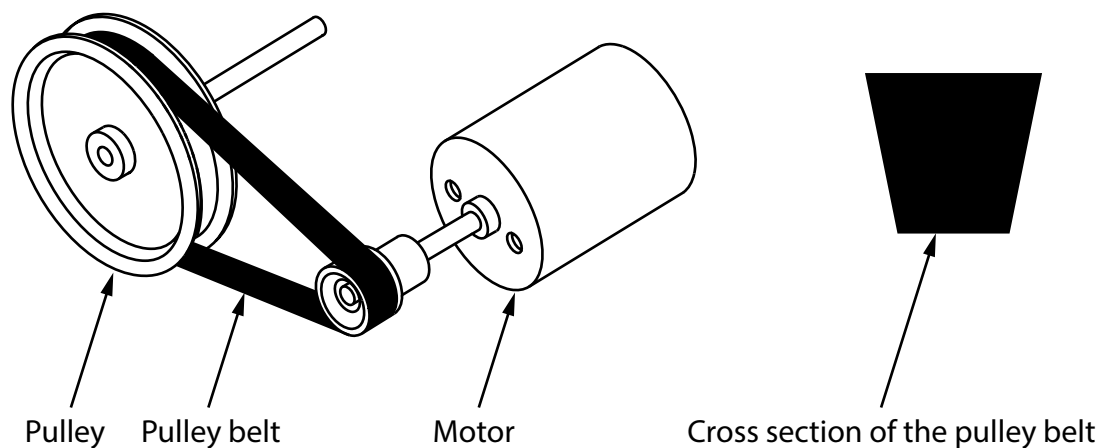

Figure 5
- 3 Figure 5 shows a pulley and pulley belt, a motor, and the cross section of the pulley belt used in a model boat drive system.
- (a) Name the type of pulley belt shown in the cross section in Figure 5. (1)
- (b) Explain **one** reason for manufacturing the pulley from aluminium rather than mild steel. (2)